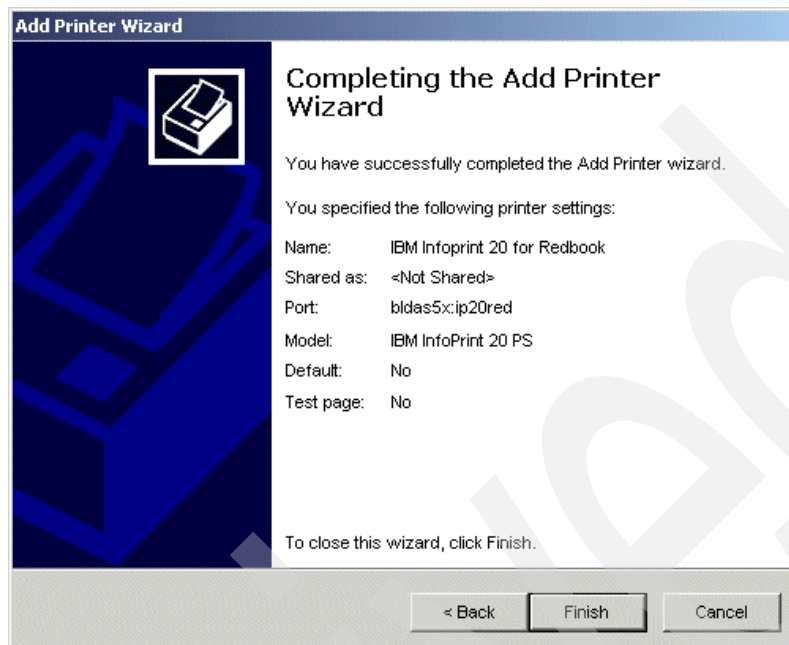

Figure 130. Completing the Add Printer Wizard
13. The completion window appears as shown in Figure 130. It summarizes the selected options. Click **Finish** to complete the definition.